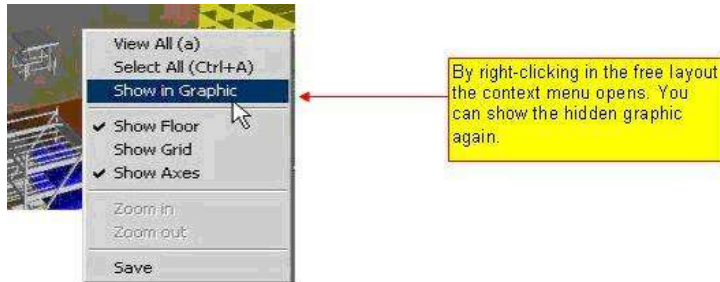

Figure 151: Show in Graphic Contextual Menu
- 2) It is possible, of course, to show the object again. You can choose from a list of hidden objects, after you have enabled the contextual menu in the layout. *Please refer to the Figure 151.*